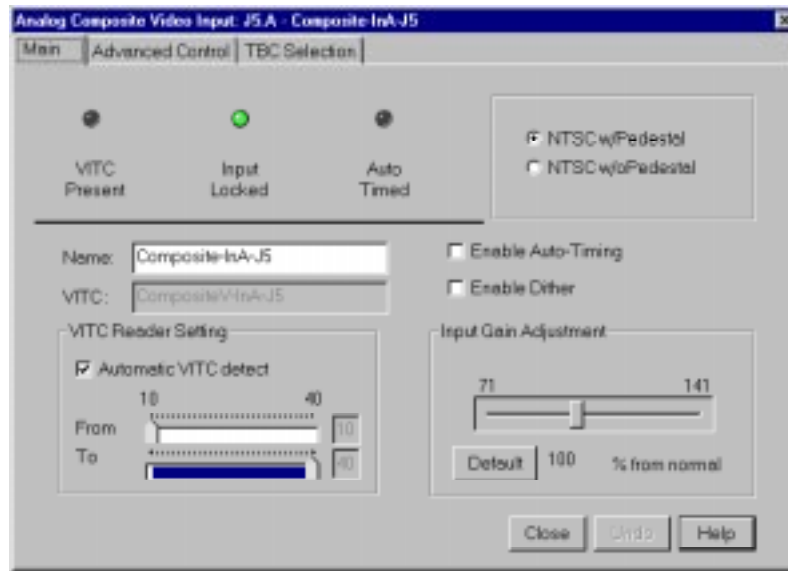
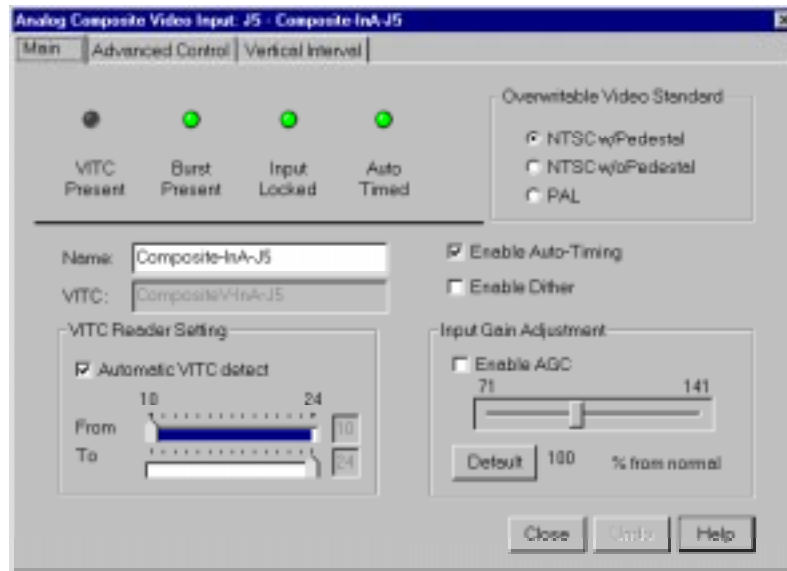

Figure 13. Analog Composite Video Input dialog box, Main tab (A)
Figure 14. Analog Composite Video Input dialog box, Main tab (B)
1. Select **Video Input** from the configuration tree, and then click or double-click an analog composite input from the list, such as *Composite-InA-J5*. The Analog Composite Video Input dialog box appears (Figure 13 for current analog composite cards and Figure 14 for earlier cards).